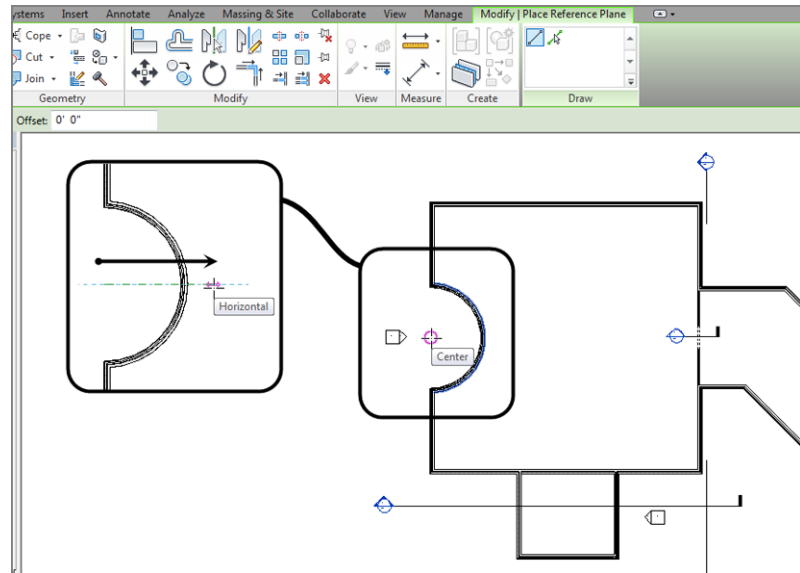

FIGURE 4.7: Establishing a reference plane
3. You're going to add a new reference plane and rotate it by 45° . To do so, click Ref Plane in the Work Plane panel in the Architecture tab (see Figure 4.7).
5. For the first point, pick the center point of the radial wall, as shown in Figure 4.7.
6. For the second point, pick a point horizontally to the right, outside the radial wall (again, see Figure 4.7).
WARNING Before you rotate, be careful. Figure 4.7 shows the second point extended past the radial wall, and that is where you generally want it. However, watch out for your snaps. When you pick the second point, be sure to zoom in on the area, ensuring that you aren't inadvertently snapping to the wrong wall.